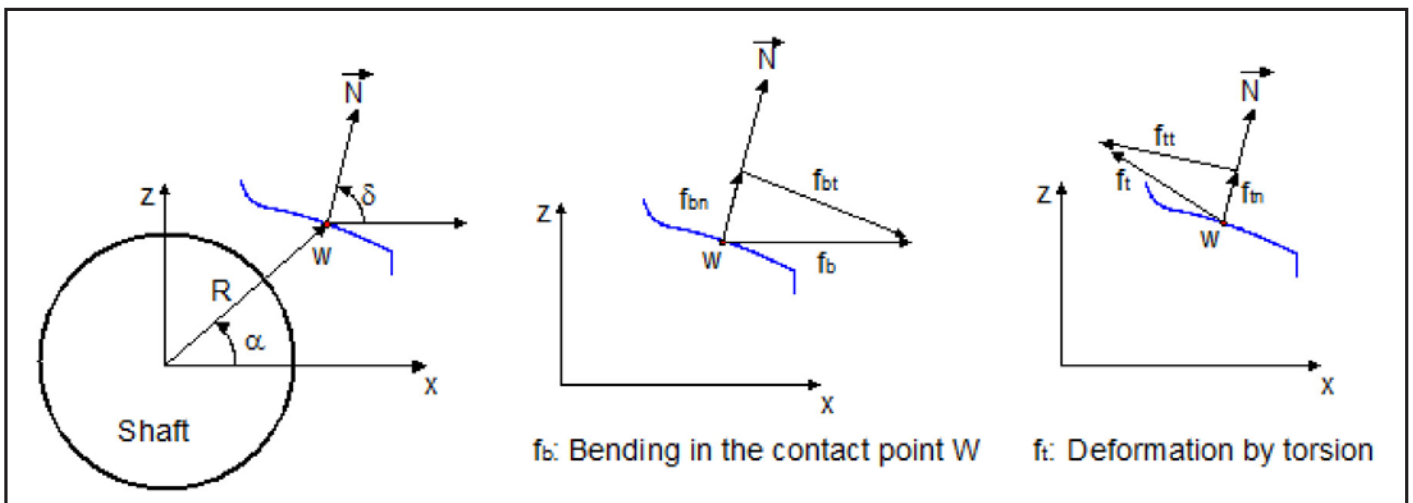

Figure 3 Determination of the gap in the gear mesh (in a shaft section).
In Figure 3 the wording “deviations in the contact plane” is explained. The deformation in every section of the shaft must be determined in the operating pitch point (W). A displacement of the point W due to bending or torsion parallel to the tooth flank will change a little bit the sliding velocity between the flanks, but otherwise has no effect at all. To get the necessary data for the determination of the gap, the components of deformation in point W (x, z coordinate) normal to the flank, f_{bn} and f_{bp} , are requested. With this data the gap between the meshing flanks is directly located.